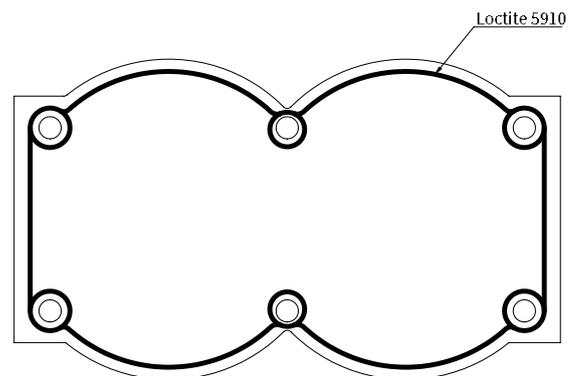

Fig. 12.22
- Bottom cover plate should be sealed with Loctite 5910. See Fig. 12.22